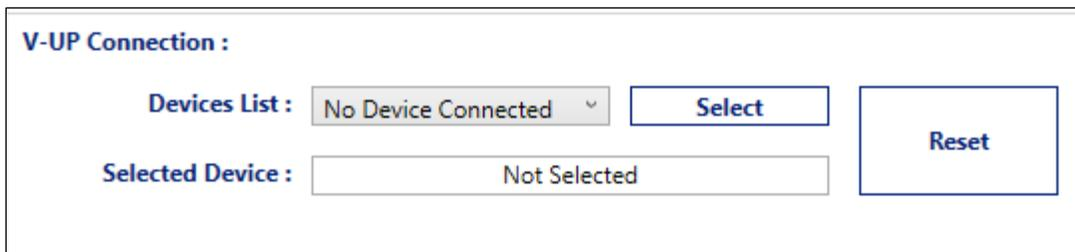

Figure 14. GRL-V-UP API Test Software Showing No Connection Establishment with Tester
1. Open the GRL-V-UP API test software and connect the GRL-V-UP tester to the control computer using a USB Type-A to Type-B cable. Figure 14 below shows no connection has yet to be established with the tester.